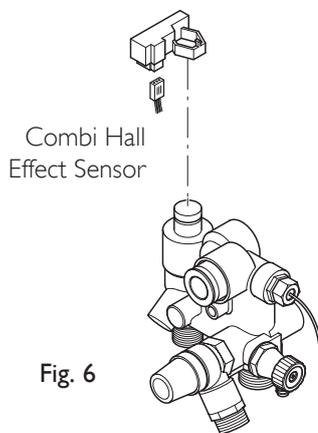

Fig. 6
6. Disconnect from the Hall Effect Sensor, DHW NTC and Water Pressure Switch (Figs. 6 & 7).
8. Connect the harness terminals to the relevant boiler components (see Figs. 6 & 7).